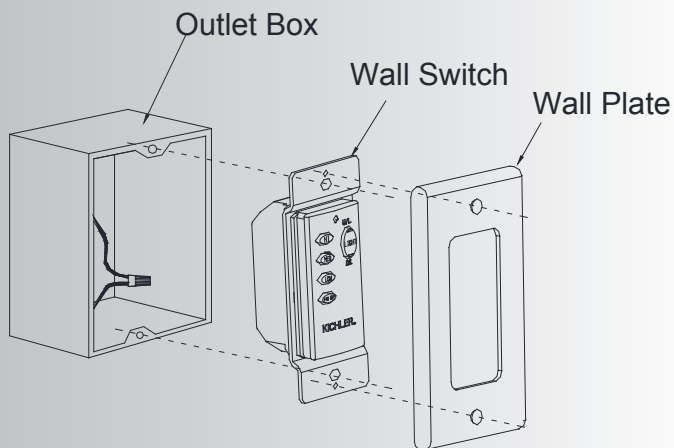

Fig. 25
Step 2. Use the screws provided to secure the wall transmitter to the outlet box. (Fig. 25)